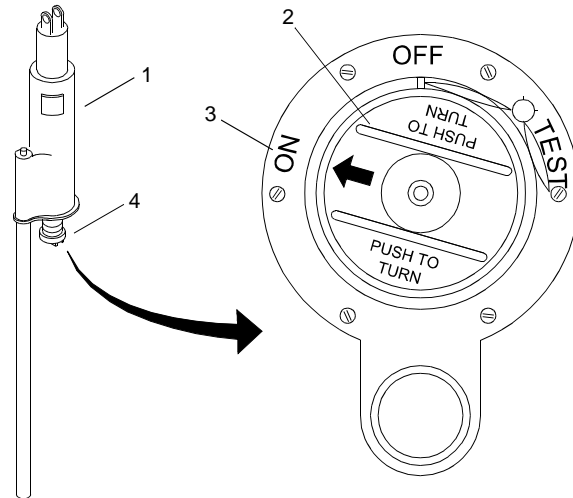

Figure 1. Search and Rescue Transponder (SART)
1. Carry the SART (figure 1, item 1) onto the survival craft.
2. Activate the SART (figure 1, item 1).
- a. Push in on the lanyard spool (figure 1, item 2).
- b. Turn the lanyard spool (figure 1, item 2) in a counterclockwise direction, until the seal breaks, to the ON position (figure 1, item 3).
3. Mount the SART (figure 1, item 1) in the survival craft and secure with the lanyard (figure 1, item 4).